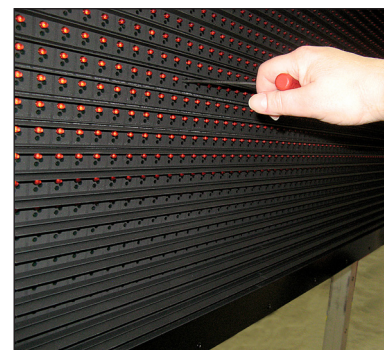

Figure 10: Remove Modules
2. Locate the latch fastener on the module. One is centered near the top of the module, as shown in **Figure 10**. Insert a $\frac{1}{8}$ " hex head wrench into the hole and turn it a quarter turn counter-clockwise.